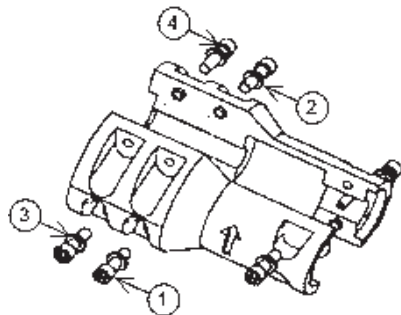

Figure 20: Coupling Torque Pattern
16. Very lightly tighten the remaining (4) socket head screws on the coupling. Tighten the coupling evenly; ensure that the coupling is symmetrical on both the pump and motor shafts. Do NOT torque the cap screws in this step.
17. Torque the socket head cap screws on the coupling. Refer to Figure 20 for the proper torque pattern. See the “Engineering Data” section on page 8 of this manual for the proper torque value.